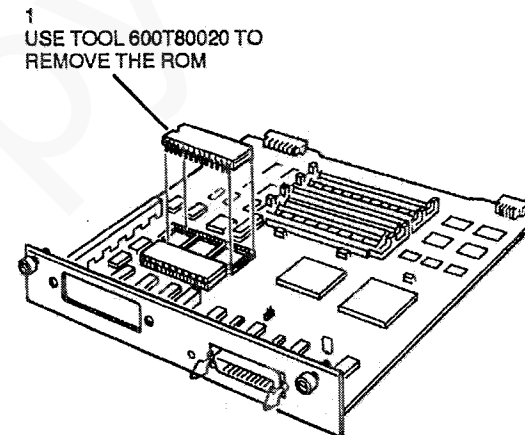

Figure 1. Emulations ROM 2 removal
2. (Figure 1) Remove the emulations ROM 2.